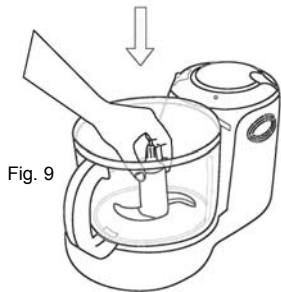

Fig. 9
3. Fit the dough blade over the spindle and press firmly into place. (Fig. 9)